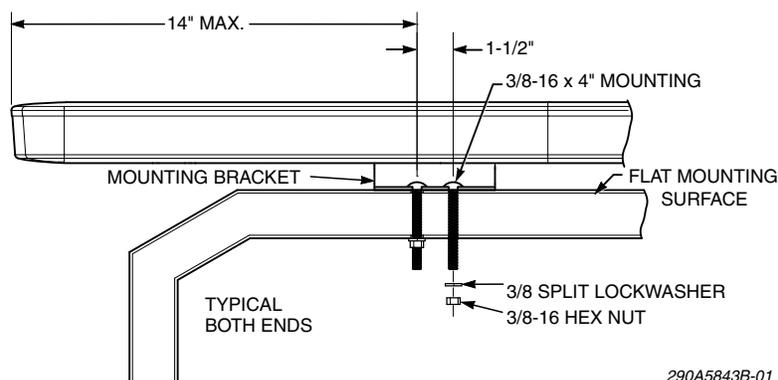

Figure 2: Distances in from the end of the lightbar
2. Scribe a drill-position mark NO MORE THAN 14 inches in from the end of the lightbar (Figure 2). Repeat this step on the other end of the lightbar.